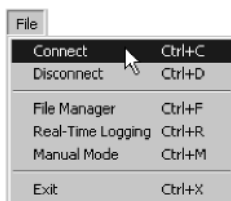

Figure 2-2. Click File->Connect
4. Click **File->Connect** (Figure 2-2).